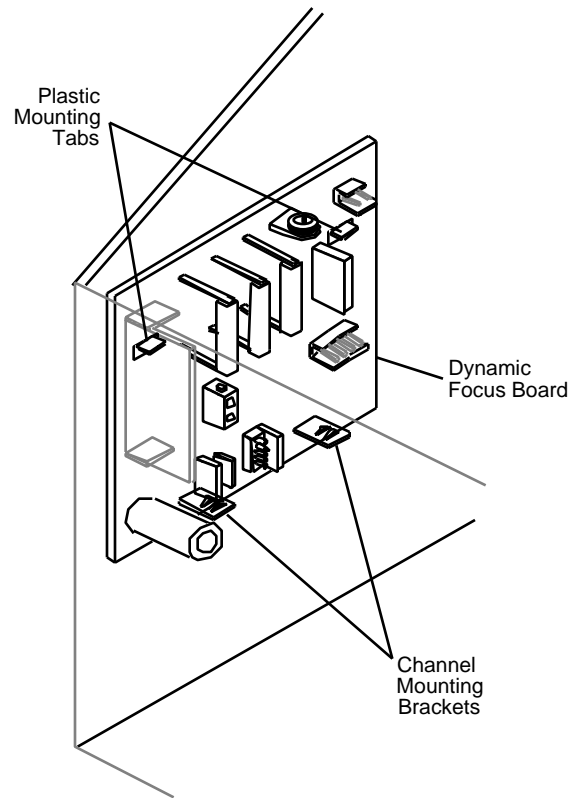

FIGURE 12
4. Pull up on two plastic mounting tabs (**Figure 12**) to release the dynamic focus board from the chassis. Carefully lift out the board.
1. Place the dynamic focus board onto the two chassis mounting brackets (**Figure 12**). Be sure the two notches along the bottom of the board are placed between channel locks on the mounting brackets.
2. Align the two plastic mounting tabs with the mounting holes in the top of the board (**Figure 12**). Pull back on the top of the board until it snaps securely onto the mounting tabs.